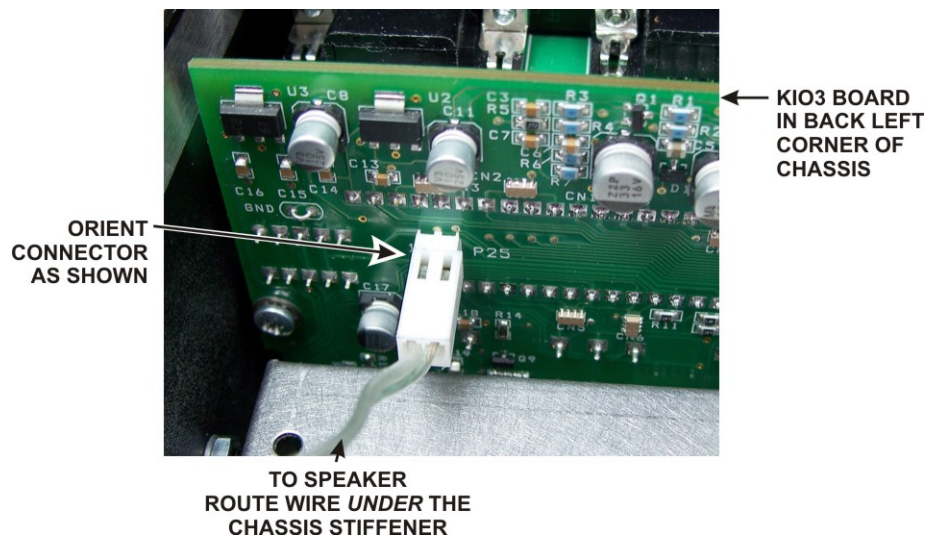

Figure 12. Connecting Speaker Cable.
- Hold the top cover above the K3, route the speaker wire under the stiffener bar and plug it into P25 on the KPAIO3 board at the left rear of the K3 as shown in Figure 12.